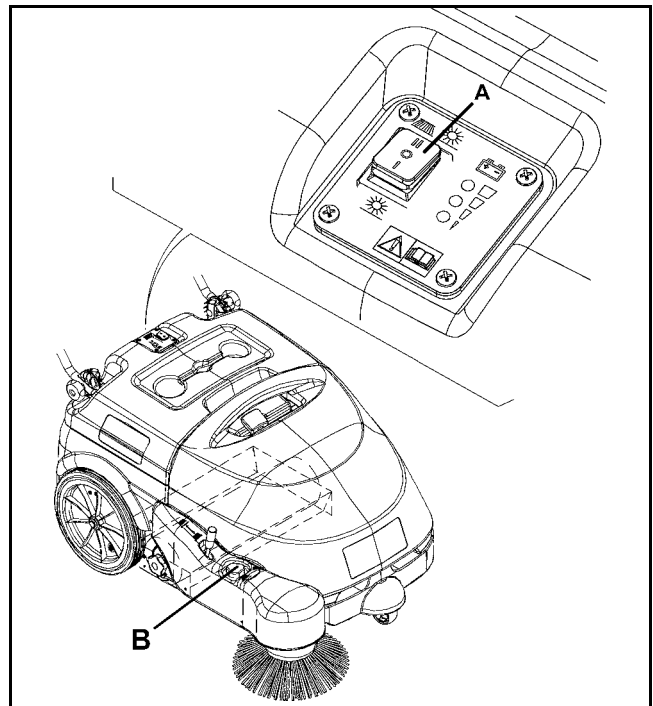

Figure 6
- Turn off the side broom by pressing the switch (A, Fig. 6), then lift it and move the machine.
2. Turn the knob (B, Fig. 6) clockwise or counter-clockwise to adjust the broom height from the ground.
2. Turn the main switch (A, Fig. 6) to “0”.